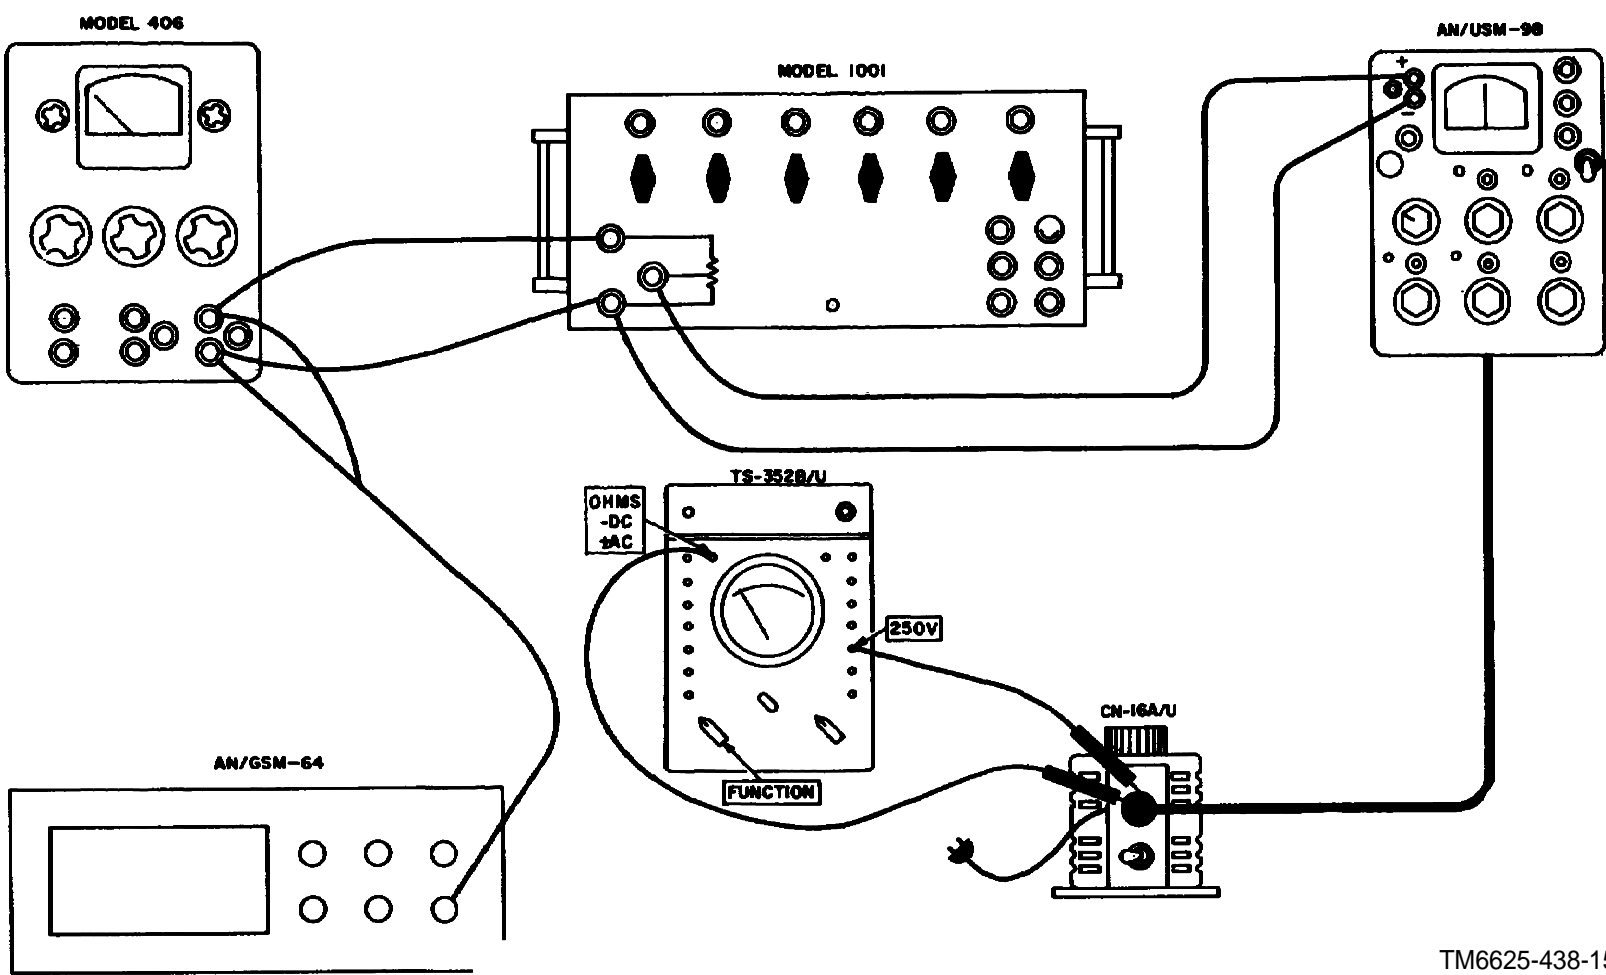

Figure 7-2. Alignment accuracy test.
- (1) Power Supply, John Fluke Model 406D, or equal.
- (2) Dc Ratio Standard, Gertsh Model 1001, or equal.
- (3) Multimeter TS-352B/U.
- (4) Voltmeter, Digital AN/GSM-64.
- (5) Variable Transformer CN-16A/U.
b. Connections. Connect the equipment as instructed below and as indicated in figure 7-2.